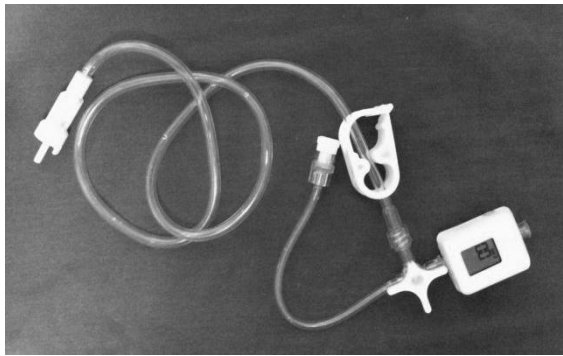

**Figure 2.** PleurX drainage adaptor line
- Drainage adapter line for PleurX catheter (**figure 2**)